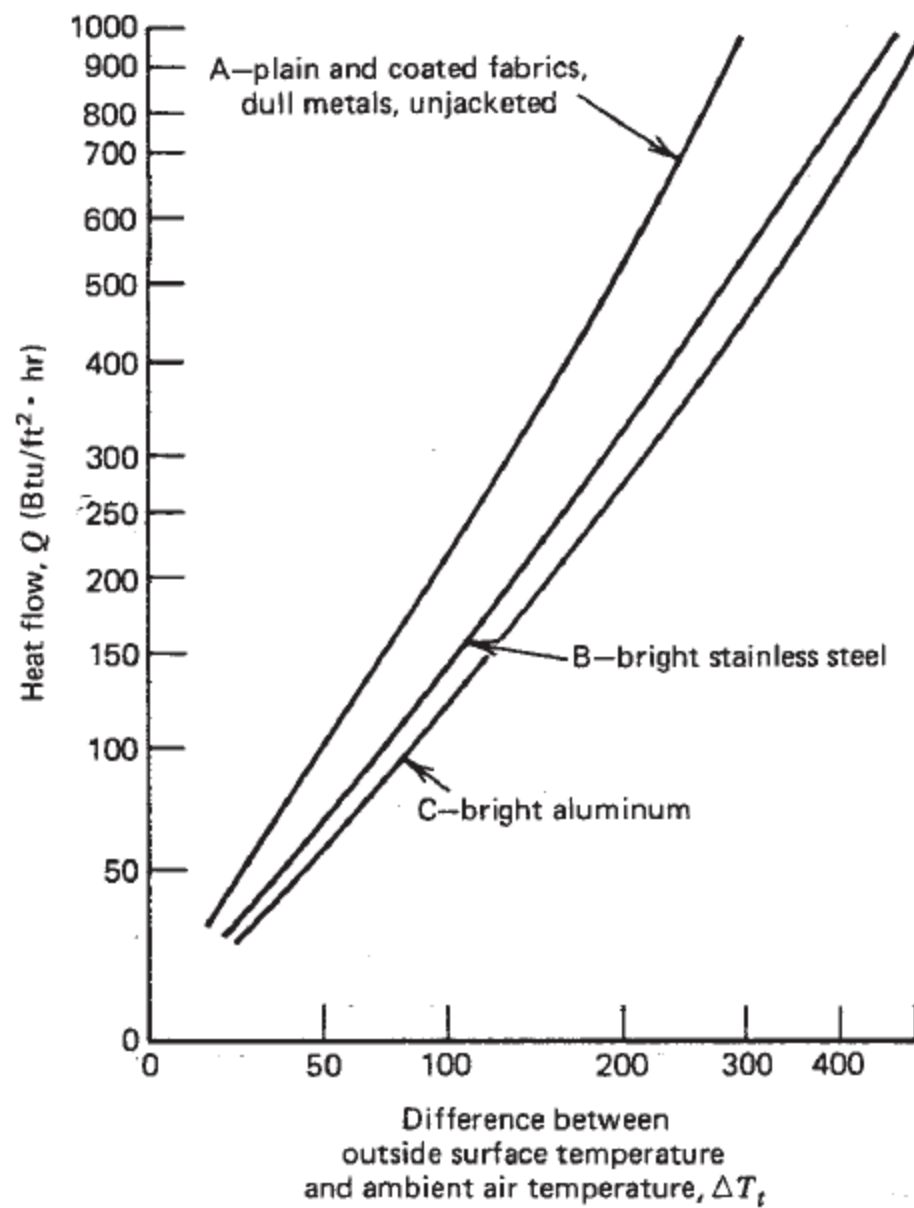

Fig. 6.3 Heat losses from surfaces at elevated temperatures.
- Figure 6.3 can be used to estimate heat losses from **flat** surfaces at elevated temperatures, or from already insulated piping runs for which the outside jacket surface temperature is known.